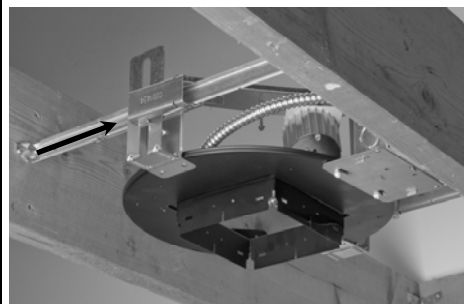

Figure 1
1. Ensure mounting rails are adjusted and locked in the center of vertical slot. Make sure mounting rails are level. (see Figure 1)